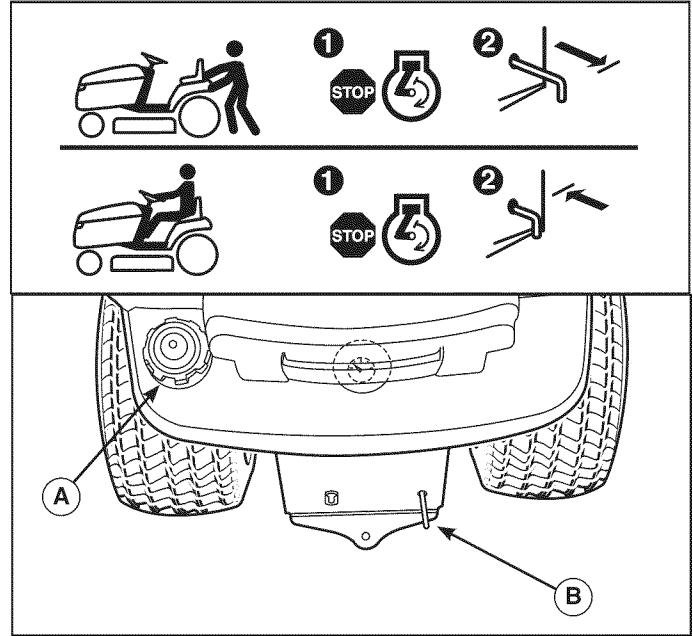

Figure 7
2. Pull the transmission release (B, Figure 7) back approximately 2-1/2" (6 cm) to lock into released position.